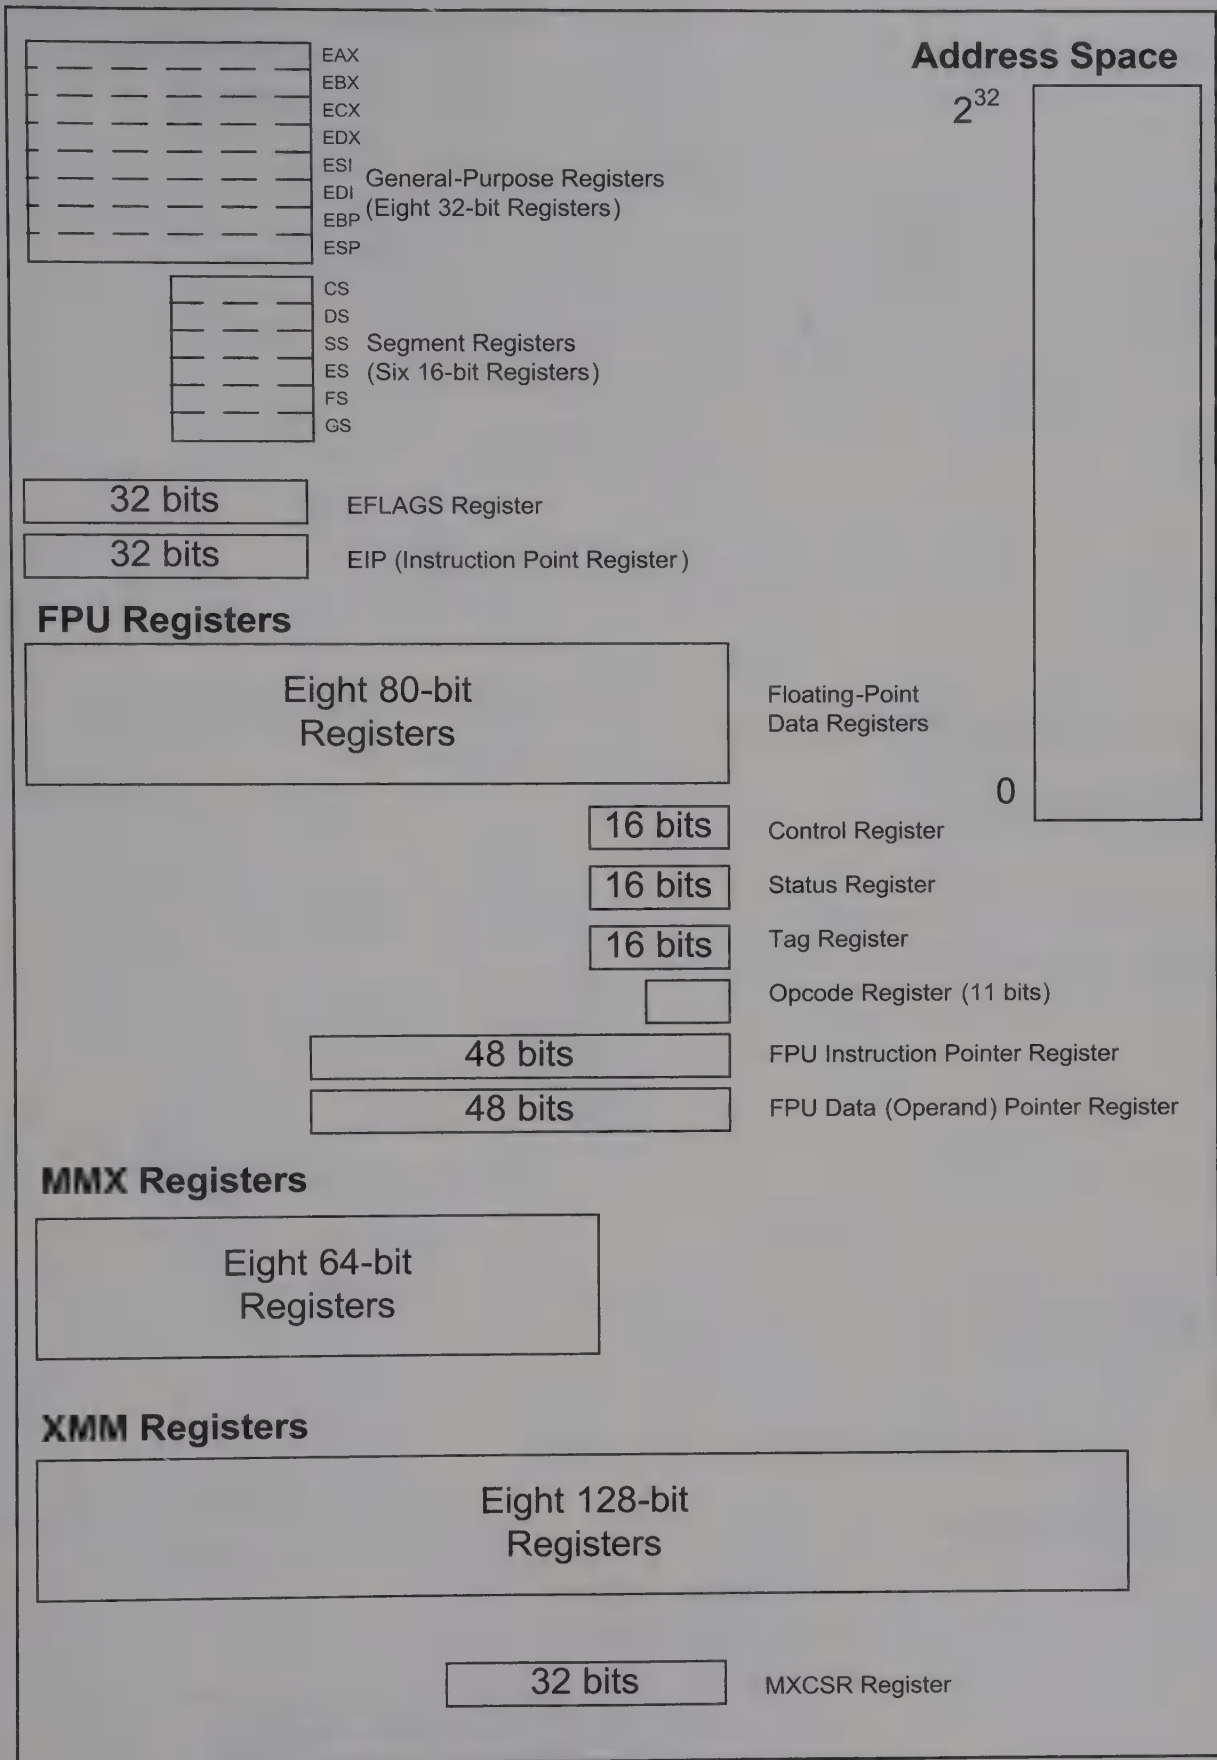
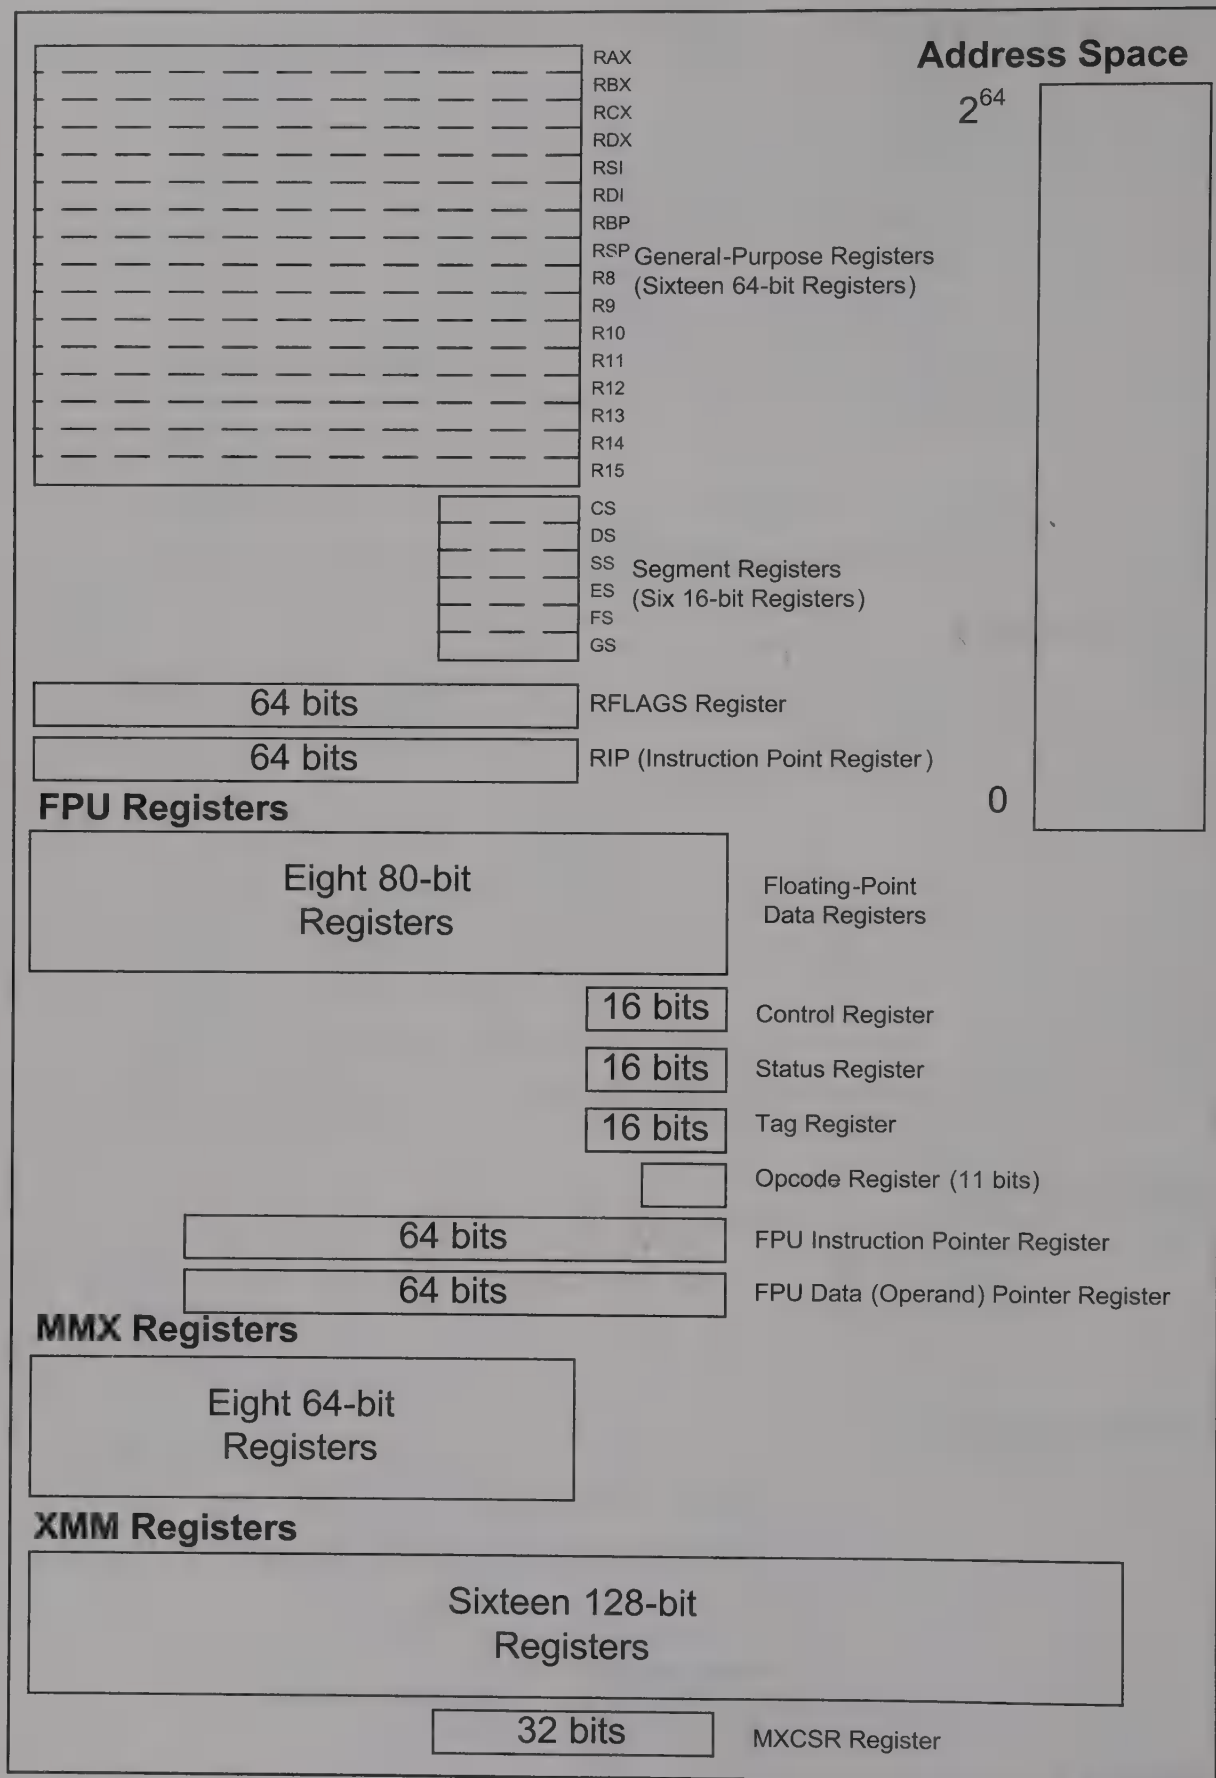

Figure 24-7. Intel Architecture - 32 (IA-32) Registers
Figure 24-8. 64-Bit Registers in 64-Bit x86 Processors
The design of the 64-bit x86 microprocessor needed to maintain compatibility with the earlier generations of 386 legacy software. This was the same problem that 386 designers faced a decade earlier when they moved away from the 80286. In the case of the 386, the 16-bit registers of AX, BX, and so on from the 8086/286 were extended to 32-bit, and were called EAX, EBX, and so on. In this way, the 8086/286 registers became a subset of 386 registers. See Figure 24-7. To make the transition from 32-bit to 64-bit data types easier, the 64-bit architecture can work in two modes: (1) compatibility mode, and (2) 64-bit mode. In compatibility mode, most 16-bit and 32-bit legacy application software can be run without recompilation under 64-bit operating systems such as Microsoft Vista. Compatibility mode uses the 8-bit, 16-bit, and 32-bit data sizes and limits the memory space to 4G bytes, just like 386 architecture. In 64-bit mode, the 386 registers AEX, EBX, and so on are expanded to 64-bit, and are designated as RAX, RBX, and so on. It also added another 8 new 64-bit general purpose registers called R8–R15. That gives us a total of 16 64-bit registers. The new R8–R15 registers can also be accessed as 8-bit, 16-bit, and 32-bit registers. See Figure 24-8.